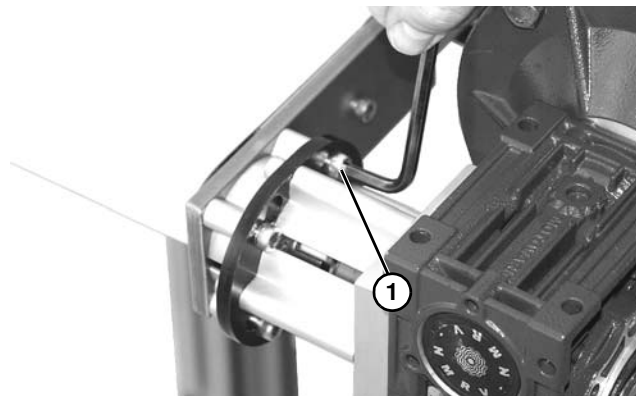

Figure 8
10. Tighten four screws (Figure 8, item 1) to 60 in-lb (7 Nm).